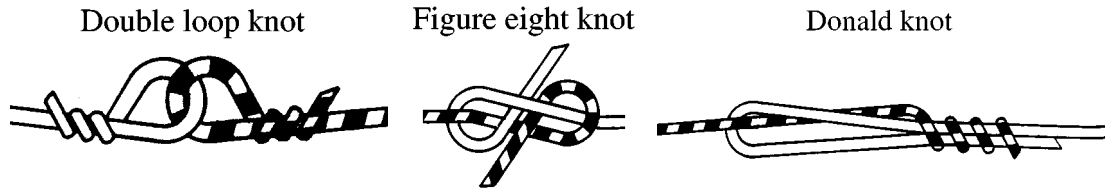

FIG. 4
- (e) Three types of fencing wire knots are shown in Figure 4. Name the most efficient and least efficient knots.